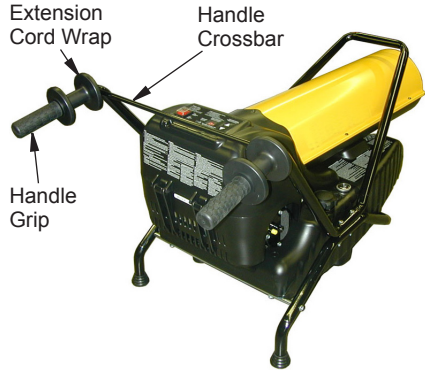

Figure 11 - Handle Grip and Cord Cleat Assembly
15. Assemble extension cord wrap to each rear handle (see Figure 11).
16. Push handle grips onto handles (see Figure 11).
17. Attach handle crossbar with 2 bolts (C)